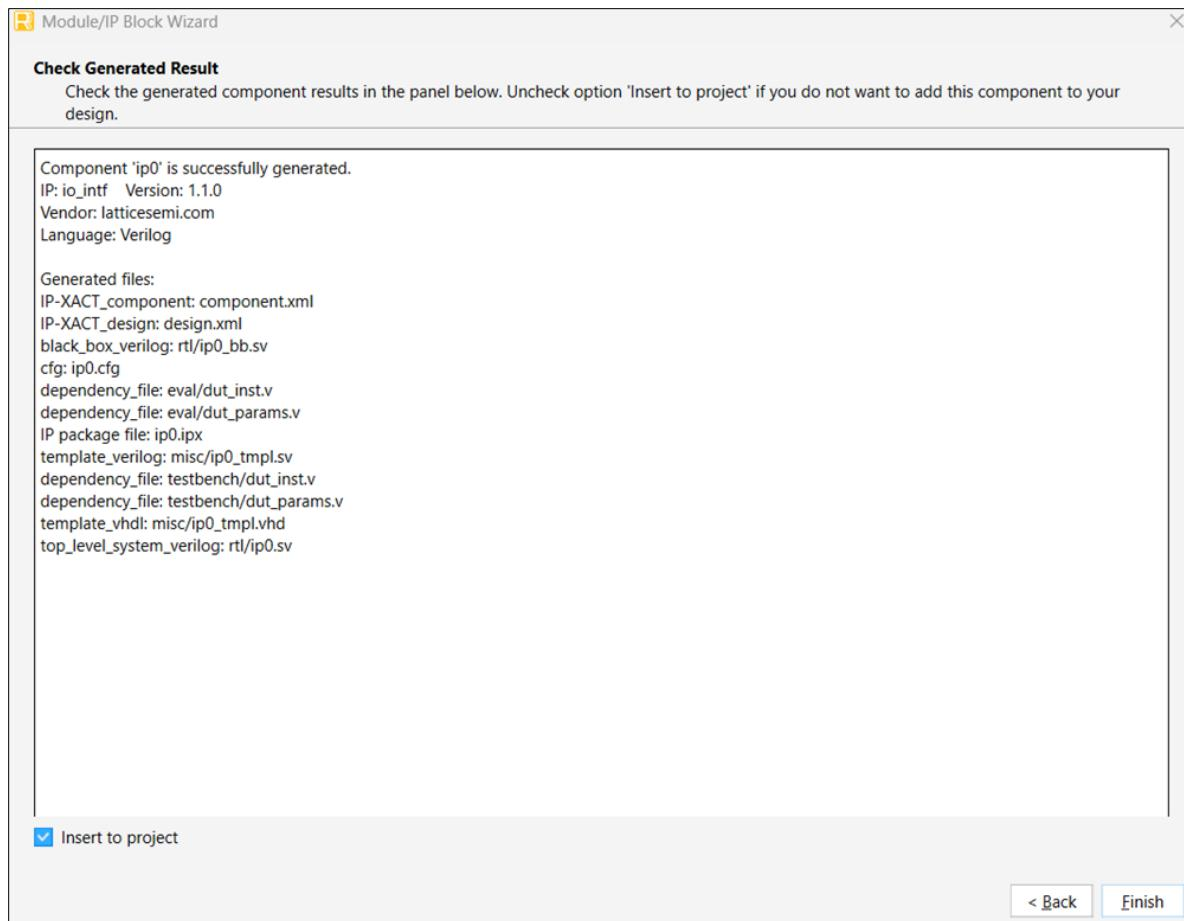

Figure 7.3. Check Generated Result
4. Click **Generate**. The **Check Generated Result** dialog box opens, showing design block messages and results (Figure 7.3).